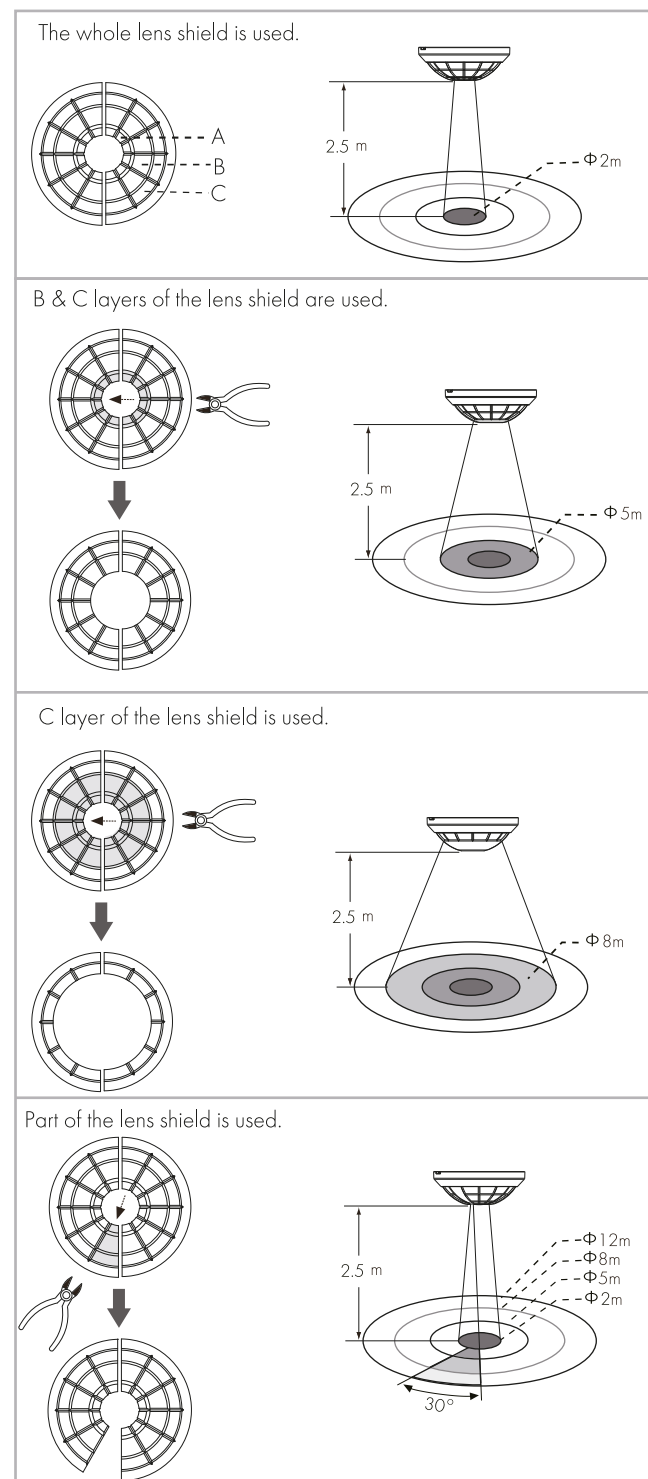

FIG.12
4.3.1 PD02X01 CON has provided 2 lens shields for masking the undesired detection area. (See FIG.12-A & FIG.12-B).
- The shadow part of the lens shields in FIG.12 refers to the cut off parts.